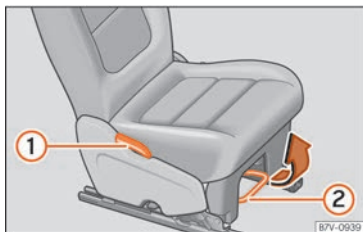

Fig. 130 Adjusting rear seats
• Pull the lever and adjust the seat backrest to the desired position » **Fig. 130 ①** » ①. The seat backrest must be engaged when the lever is released!